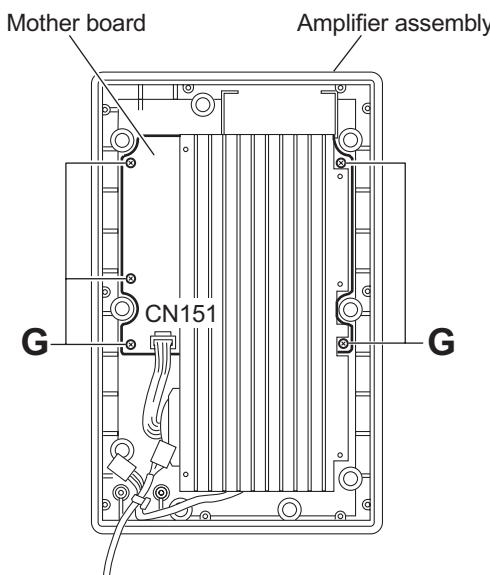
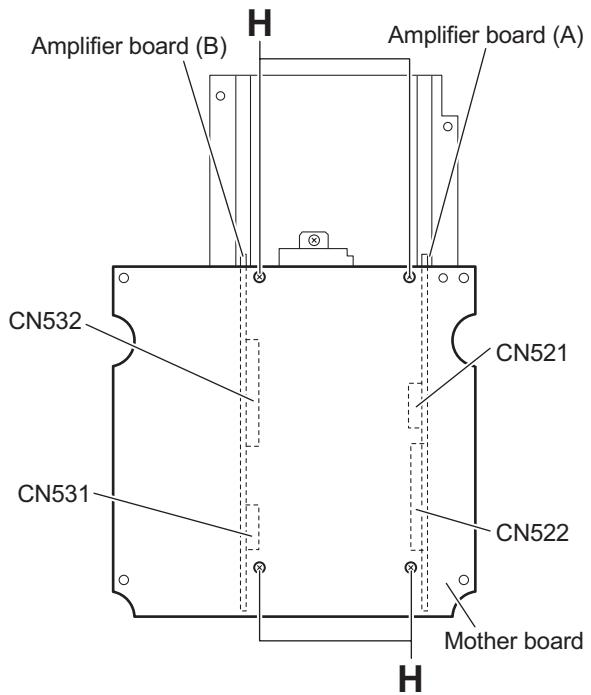

Fig.7
Fig.8
(See Figs.7 to 9)
- (1) From the inside of the amplifier assembly, disconnect the wire from the connector CN151 on the mother board. (See Fig.7.)
- (2) Remove the five screws **G** attaching the mother board. (See Fig.7.)
- (3) Take out the mother board together the amplifier boards (A,B) and heat sink.
- (4) Remove the four screws **H** attaching the mother board. (See Fig.8.)